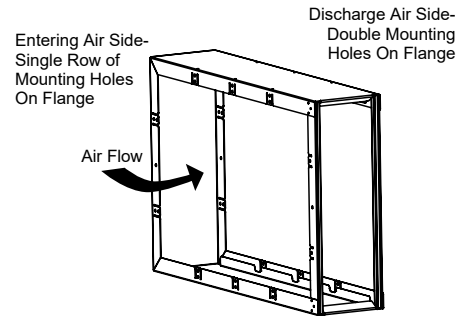

Figure 3. Air Flow Direction
4. The filter enclosure is designed for single-direction air flow. Install the filter enclosure such that the arrow always points towards the furnace/air handler. (See Fig. 3)